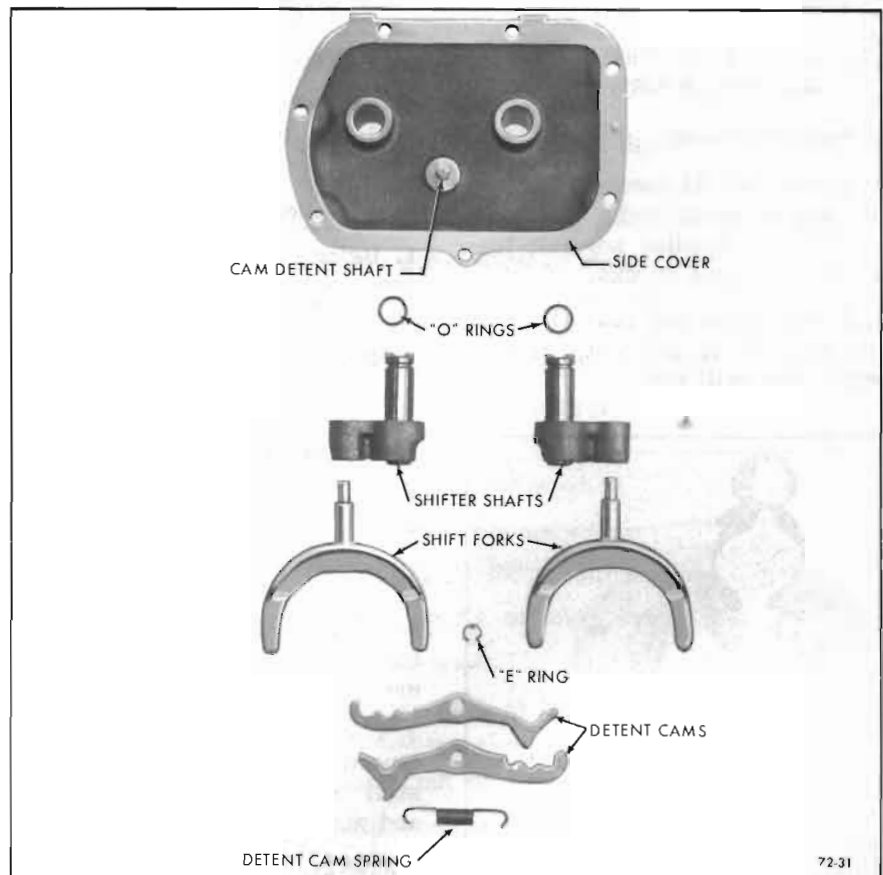

Figure 72-31—Exploded View of Side Cover
a. Disassembly (See Figure 72-31)
b. Assembly (See Figure 72-31)